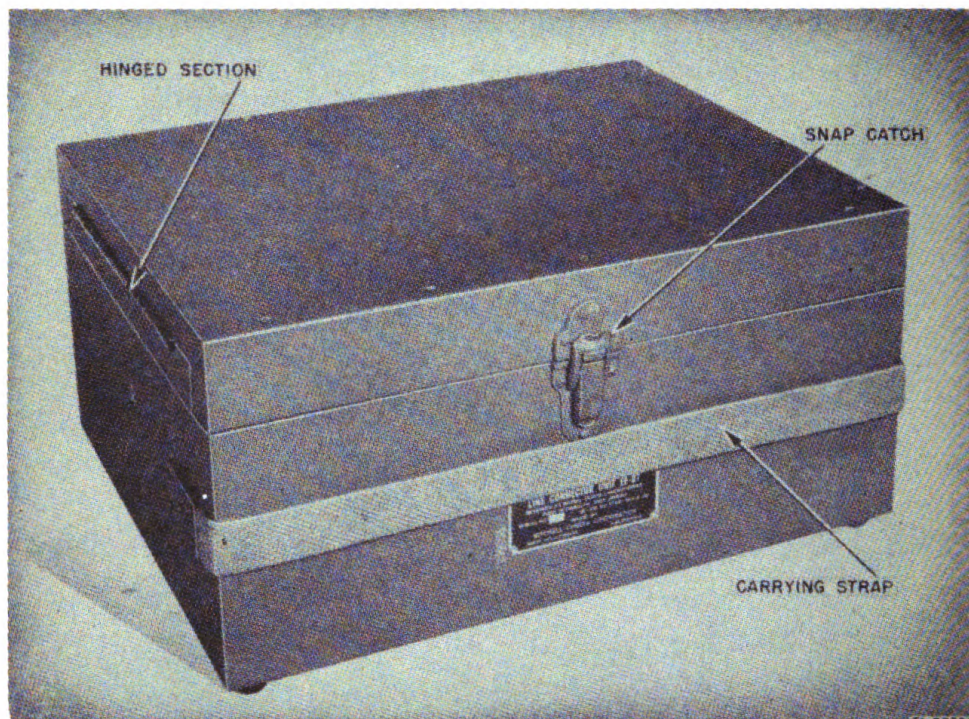

Figure 8. Line Connector Unit EE-87—cover closed.
- (2) Line Connector Unit EE-87 (figs. 8 and 9).
a. *CASE.* Line Connector Unit EE-87 is contained in a birch-wood case with a web carrying strap and hinged cover (fig. 8). The case is provided with a snap catch for securing the cover during operation and transportation. The case measures  $11\frac{1}{4}$  by  $14\frac{1}{4}$  by  $6\frac{7}{8}$  inches, and the assembled unit weighs 25 pounds.